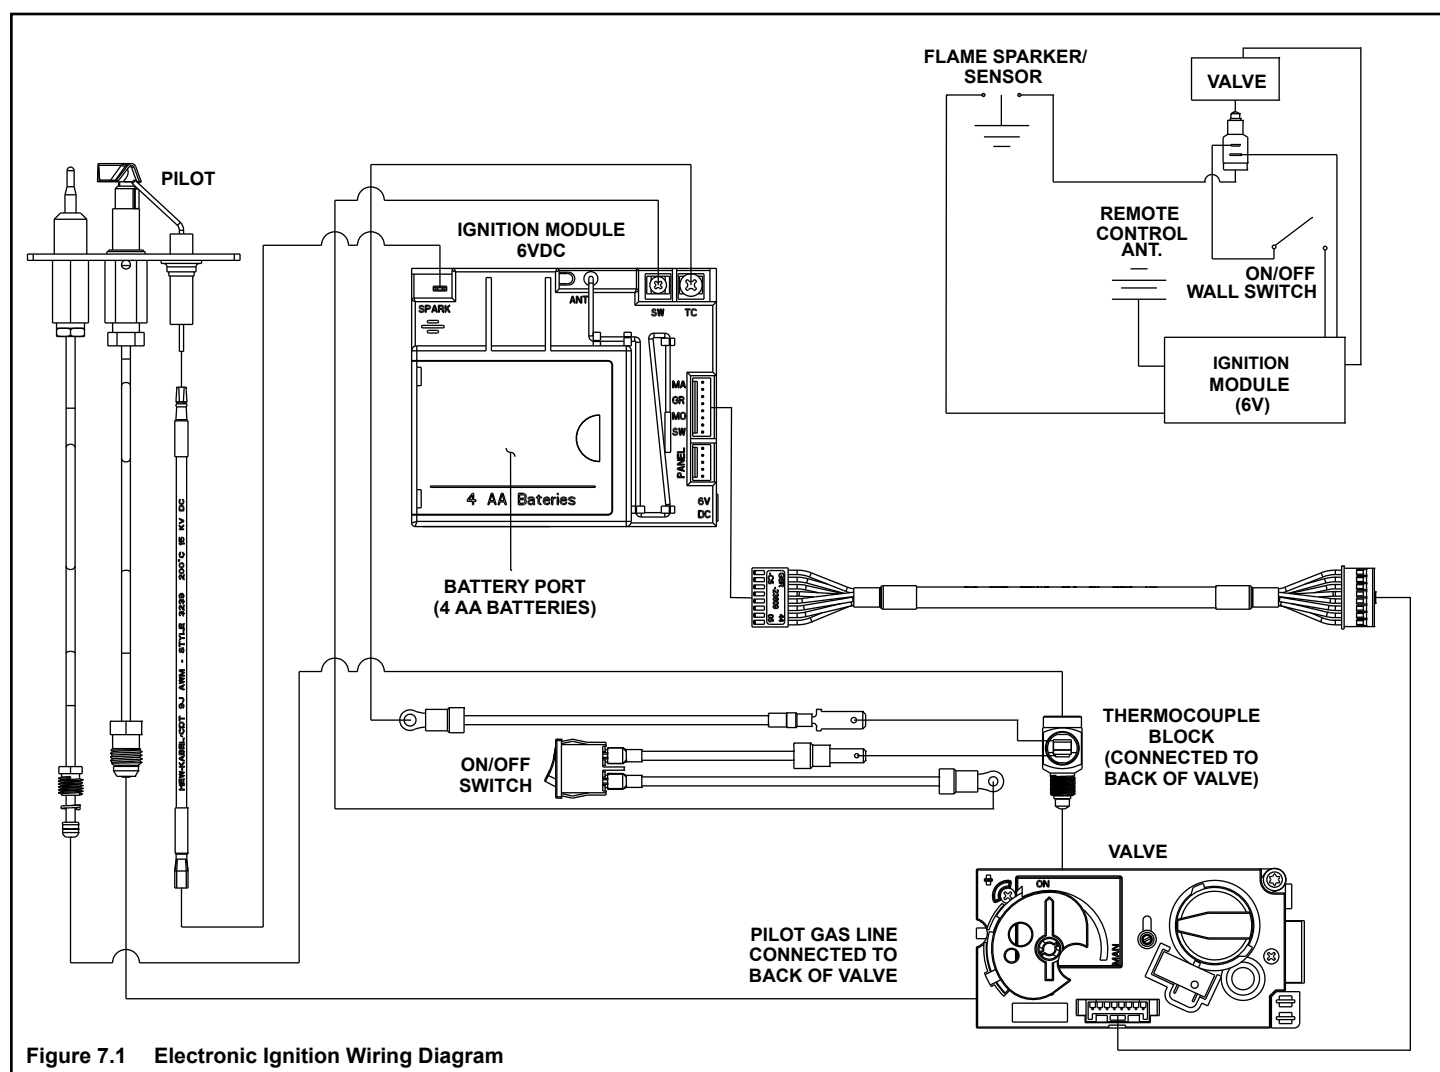

Figure 7.1 Electronic Ignition Wiring Diagram
- The batteries are located within the ignition module which is located within the external control box. A wiring diagram is shown in Figure 7.1.